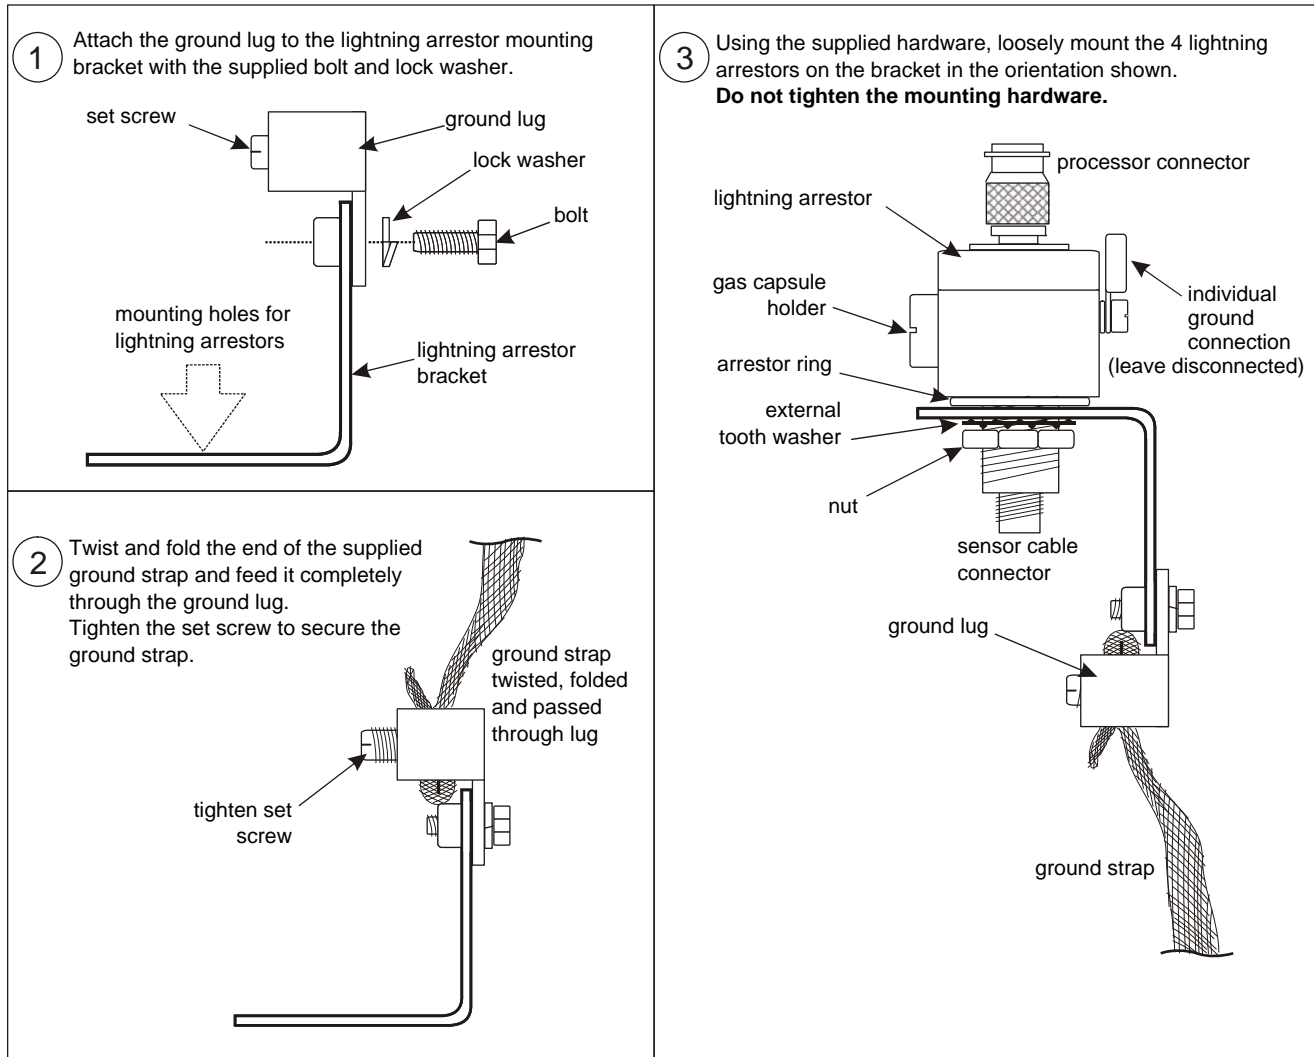

Figure 160: Preparing the lightning arrestors for installation
1. Connect the ground lug to the lightning arrestor mounting bracket with the supplied bolt and lock washer (see Figure 160).
3. Hold the lightning arrestor assembly horizontally with the gas capsule holders facing upwards. Using a large bladed slot screwdriver, remove the gas capsule holder from the lightning arrestor (see Figure 160).